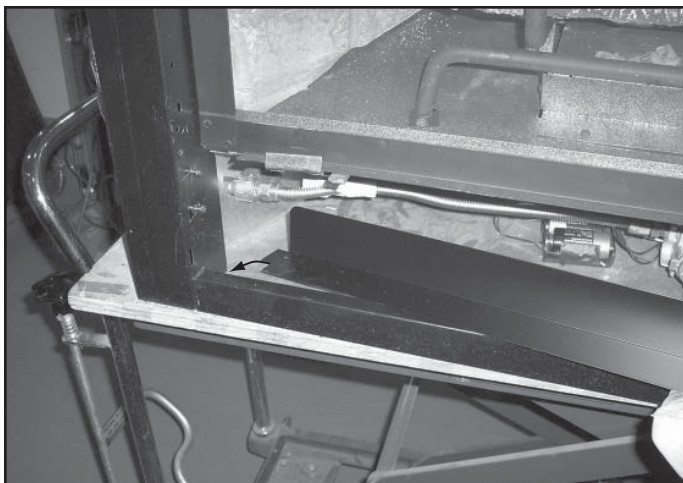

Figure 14.10 Installing Floor Cover
- Install floor cover. See Figure 14.10. Floor cover must be installed with brake flange UP and going towards components with notched end to the left of the unit. Do not place cover on top of any components. Move components back if necessary.